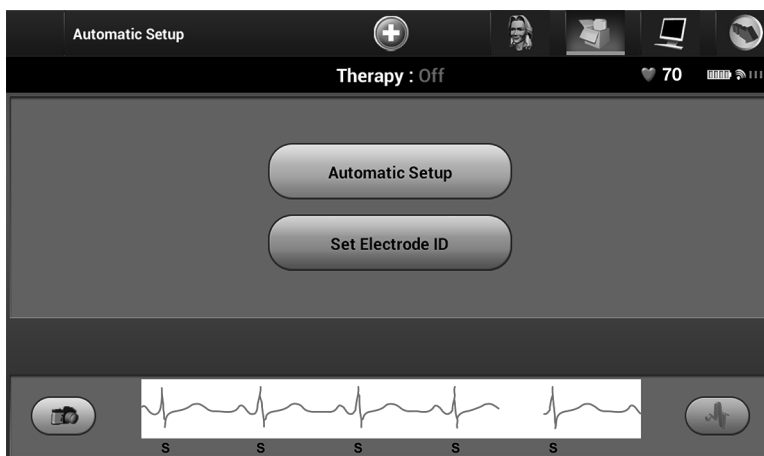

Figure 18: Select the Set Electrode ID button to enter electrode information
4. Select Set Electrode ID button (Figure 18).